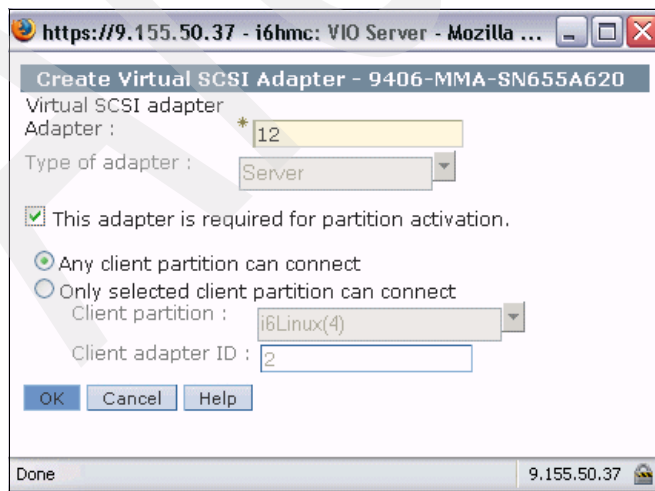

Figure 6-13 Create Virtual SCSI Adapter dialog
11. We accept the suggested virtual SCSI adapter ID of 12, leave the setting Any client partition can connect for the moment, check mark **This adapter is required for partition activation**, and select **OK** to continue (Figure 6-13).